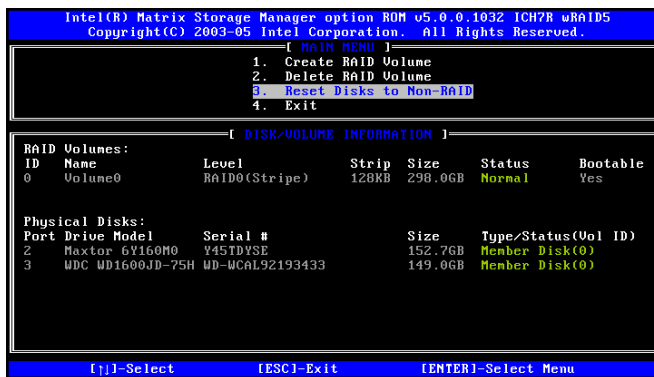

Figure E-12: Reset Disk to Non-RAID Menu
Step 1: Select "Reset Disk to Non-RAID." Use the arrow keys to highlight **Reset Disk to Non-RAID** and press **ENTER**. See Figure E-12.